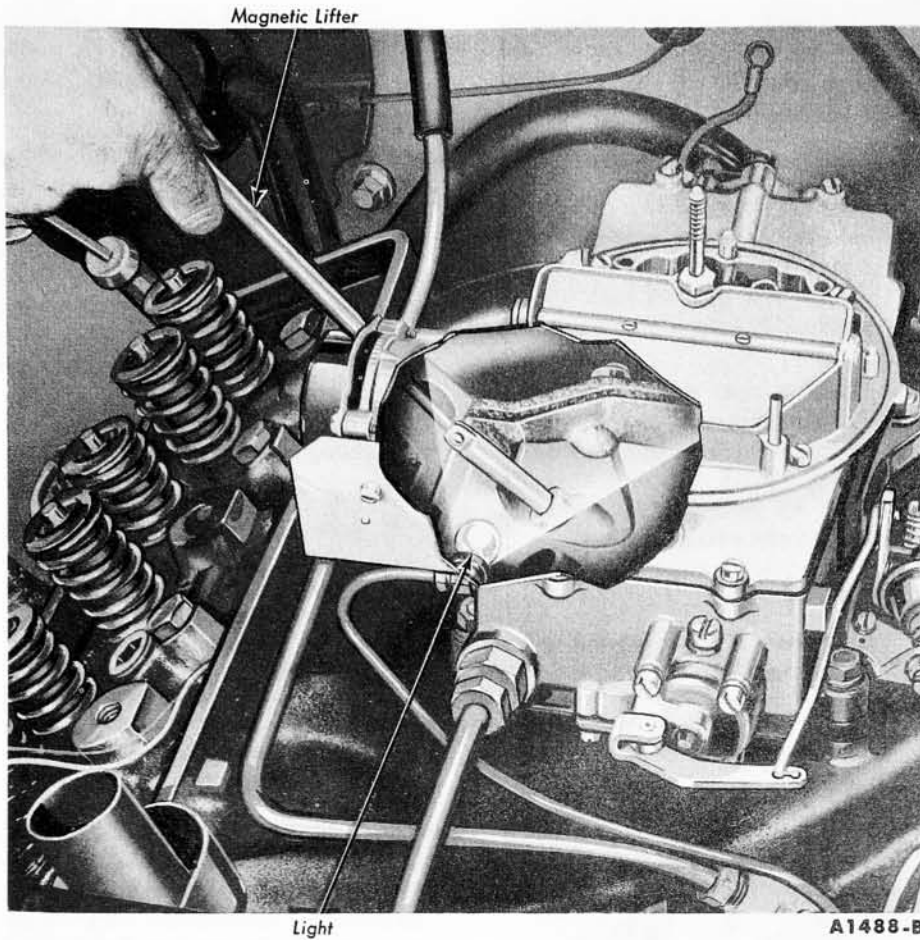

FIG. 55—Valve Lifter Replacement—Intake Manifold Installed
5. Position an inspection light through a push rod opening and into the valve push rod valley (Fig. 55). Remove the valve lifters with a magnet through the push rod openings. In some cases, it will be necessary to transfer the lifter over to an adjoining push rod opening in order to remove it. Place the lifters in a rack so that they can be installed in their original positions.
2. Position an inspection light through a push rod opening and into the valve push rod valley (Fig. 55). Remove the valve lifters with a magnet through the push rod openings. In some cases, it will be necessary to transfer the lifter over to an adjoining push rod opening in order to re-